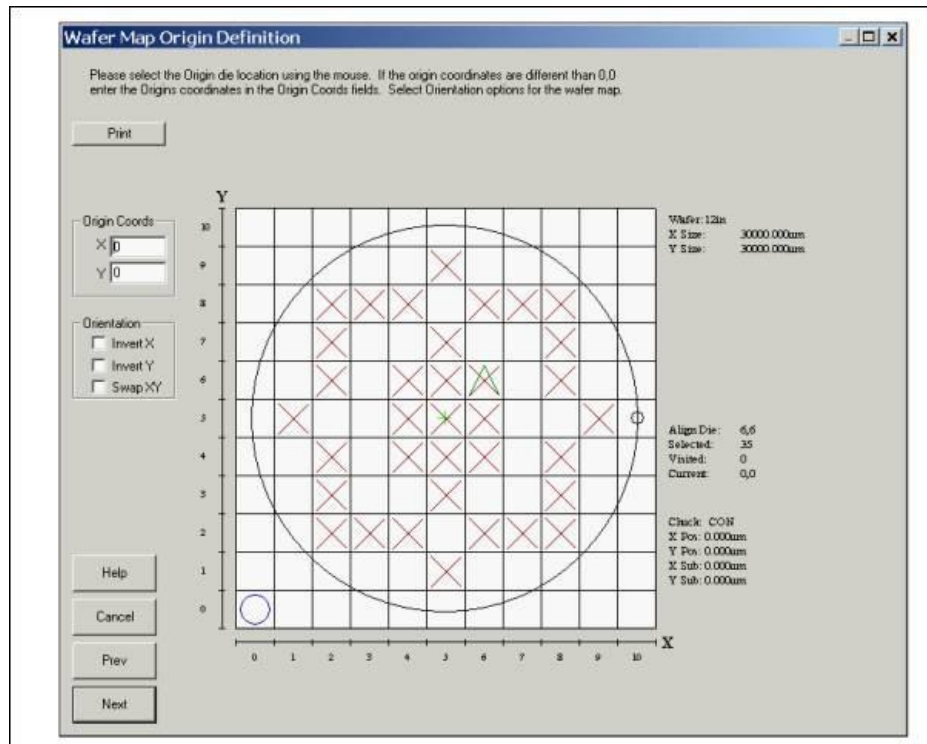

Figure 11
9.3.5.6 Define the origin location on the wafer map. The origin of the coordinate system may be specified in the text fields on the left (Figure 11).